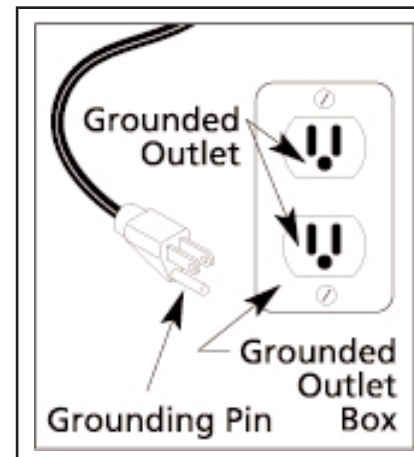

Figure 2
3. This product is for use on a nominal 110-volt circuit and has a grounding plug that looks like the plug in Figure 2. Make sure that the product is connected to an outlet having the same configuration as the plug. No adapters should be used with this product.